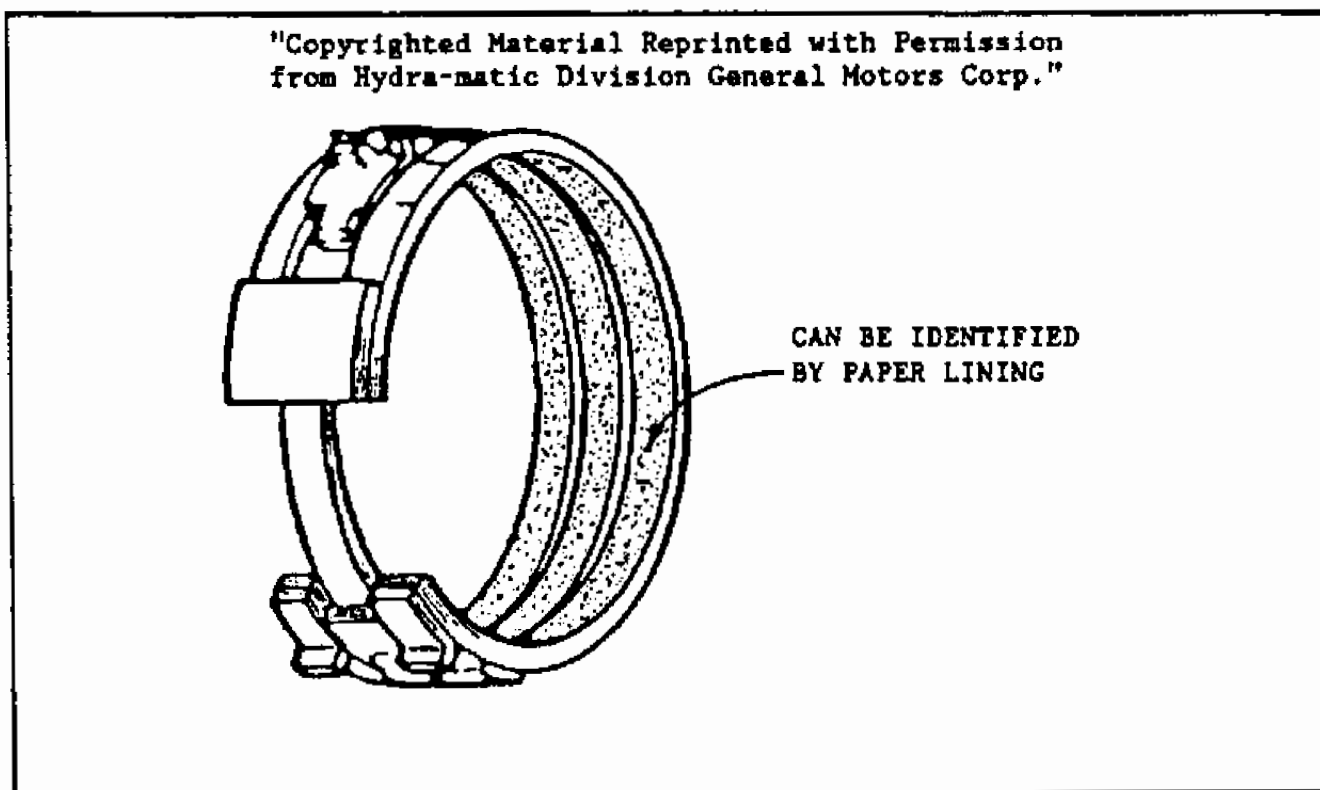

Figure 33
- (1) **REVERSE BAND ASSEMBLY** - The lining on the reverse band has once again been changed, and can be identified by the "Paper" lining on the band itself (See Figure 33).